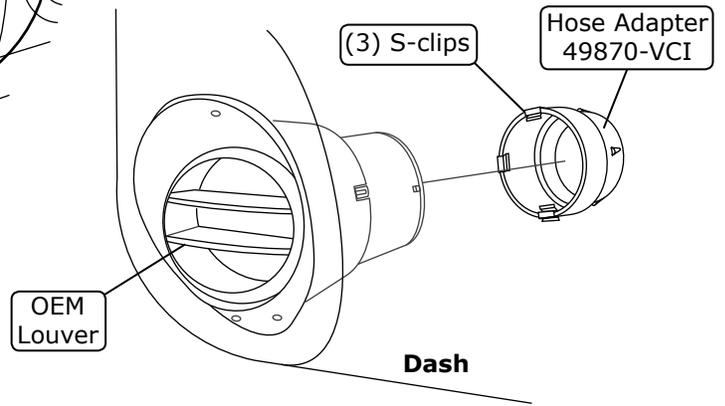

Figure 11a
1. Install S-clips onto the driver and passenger side hose adapters as shown in Figure 11a, below.
3. Install the driver & passenger side hose adapters onto the OEM louvers (See Figure 11a, below).